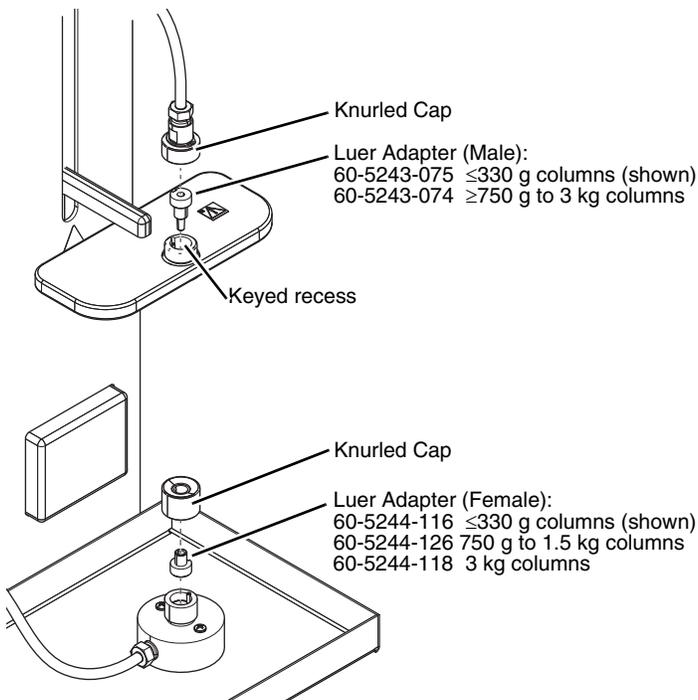

Figure 2-37 Changing column luer adapters
1. Unthread the knurled cap and remove the luer adapter (Figure 2-37).